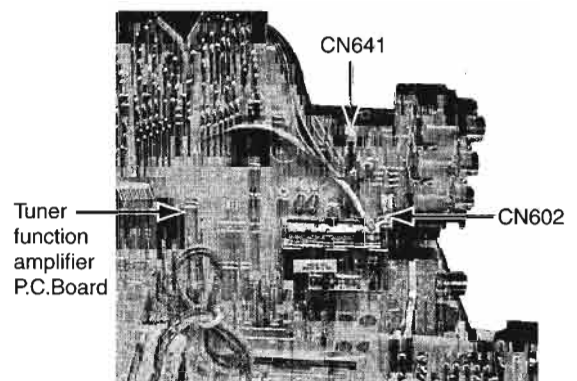

Fig. 7
- 6.Disconnect the connector from CN602,CN641 on the tuner function amplifier P.C.Board (See Fig 7).